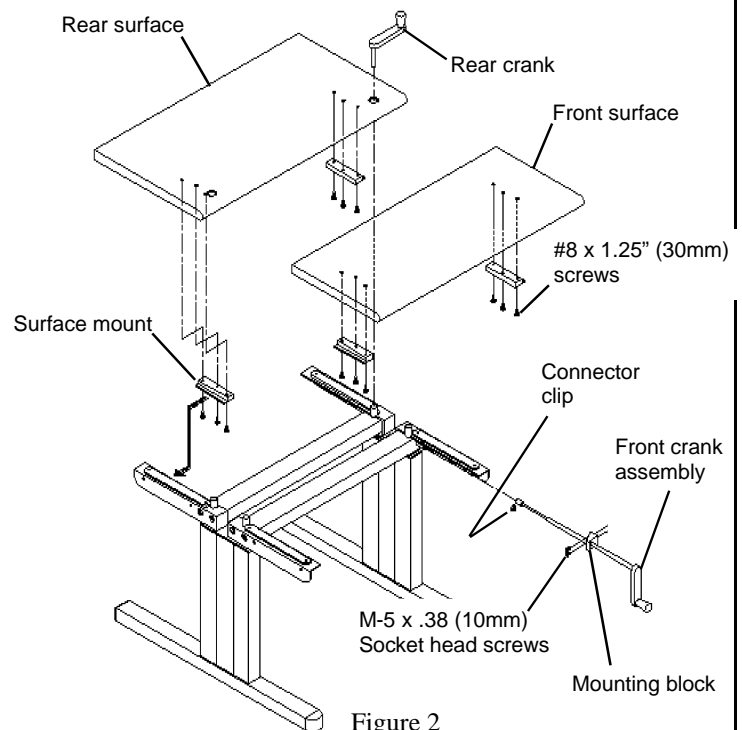

Figure 2
Attach the Surface Mounts to the Rear Surface using the #8 x 1.25"(30mm) screws provided. Repeat this procedure for the **Front Surface**. See **Figure 2**.
4. The **Front Crank Assembly** may be installed on the left or right side of the unit. Fasten the **Mounting Block** to the appropriate Top Support using the two M-5 x .38"(10mm) Socket head screws provided. Tighten securely using the 4mm wrench. See **Figure 2**.
Insert the Front Crank Assembly through the Mounting Block and onto the **Drive Pin** located on the Base Frame. Fasten the Crank Assembly to the Drive Pin with the **Connector Clip**. See **Figure 2**.
5. Install the removable **Rear Crank** into the Rear Surface drive mechanism on either side of the Surface. The holes in the Surface must be aligned with the drive mechanism on the Base Frame. See **Figure 2**.